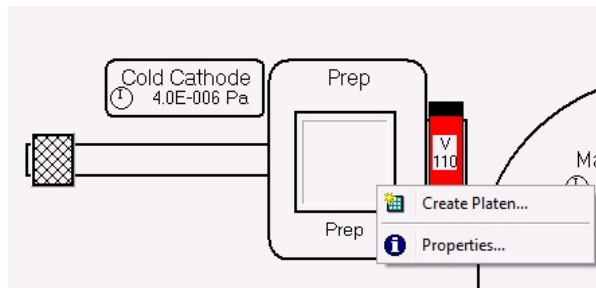

Figure 3-13. Prep Position on Chamber Viewer
6. On SmartSoft-VersaProbe, move to **System** main tab. Right-Click at **VersaPrep** position on the **Chamber Viewer**.(Figure 3-13)